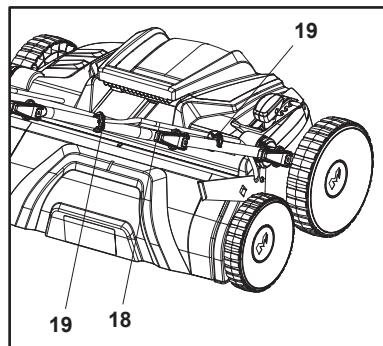

Fig. 3
- Secure the interconnection cord (18) with two wire clips (19) (Fig. 3).